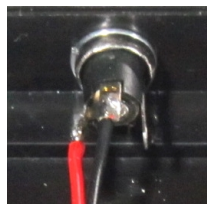

Figure 1
Locate the bottom cover of the enclosure and the DC Power input jack. NOTE: There are two different power jacks supplied depending on component availability. A three lug power jack as shown in figure 1 or a two lug black power jack not shown. We will address the correct wiring connections for each in the next section.
Insert the DC power jack into the mounting hole in the orientation shown in Figure 1. Ignore the wires (for now).
- If your kit was supplied with the thee terminal power jack, Referring to Figure 1, solder the BLACK(-) lead of the power connector wire to the center lug of the power input jack, next solder the RED (+) lead of the power connector wire to the left lug of the power input jack.